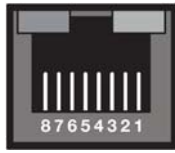

FIG. 7 Ethernet Pin Numbering
4. Use CAT5 Ethernet cable to connect the NXB-CCG to the chosen network's Master. Please refer to the Ethernet Pin Numbering diagram (FIG. 7) for the correct connection.